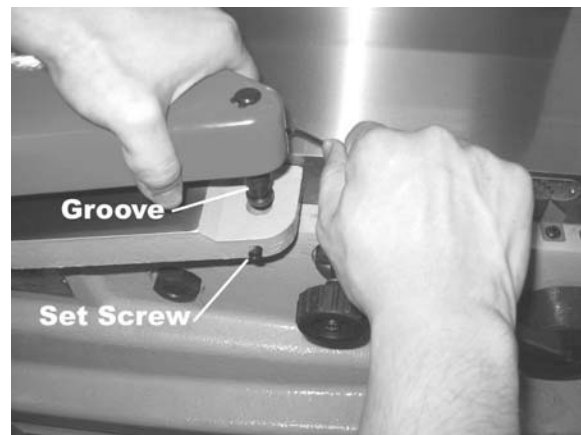

Figure 8-3
3. Lower the shaft of the guard into the hole on the jointer's rabbeting ledge. See Figure 8-3. The guard should be lowered into the hole far enough that the groove in the guard's shaft will mate with the shaft of the set screw (Figure 8-3).
5. Completely tighten the set screw (Figure 8-3), while continuing to hold the hex wrench and pin with your right hand.
6. When the guard is secured, remove the hex wrench from the pin. Slightly loosen the set screw (Figure 8-3) until the pin snaps back against the rabbeting ledge.
7. Re-tighten the set screw (Figure 8-3).